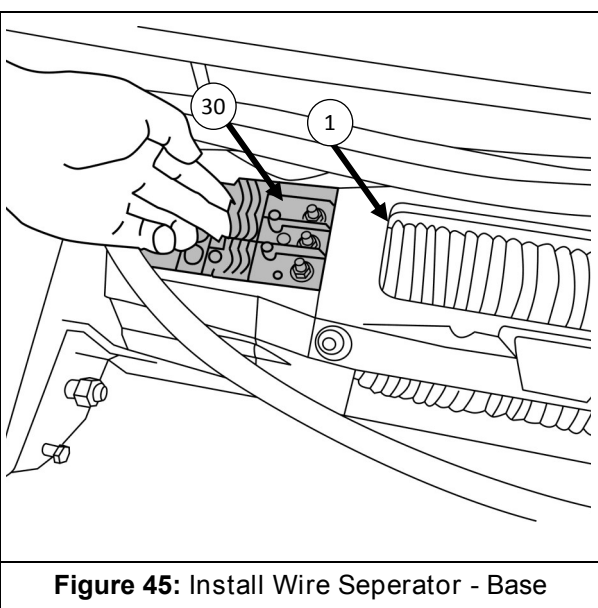

Figure 45: Install Wire Separator - Base
- Place Wire Separator - Base (Item 30) over motor terminals on Winch (Item 1) as shown in Figure 45.